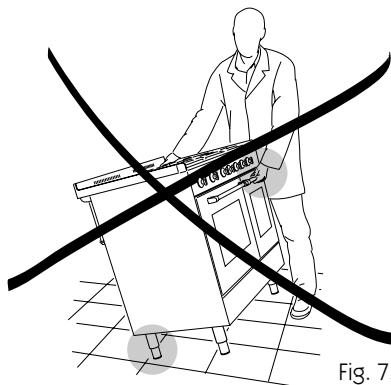

Fig. 7.4
**Be careful: do not lift the cooker by the door handle when raising to the upright position (fig. 7.4).**